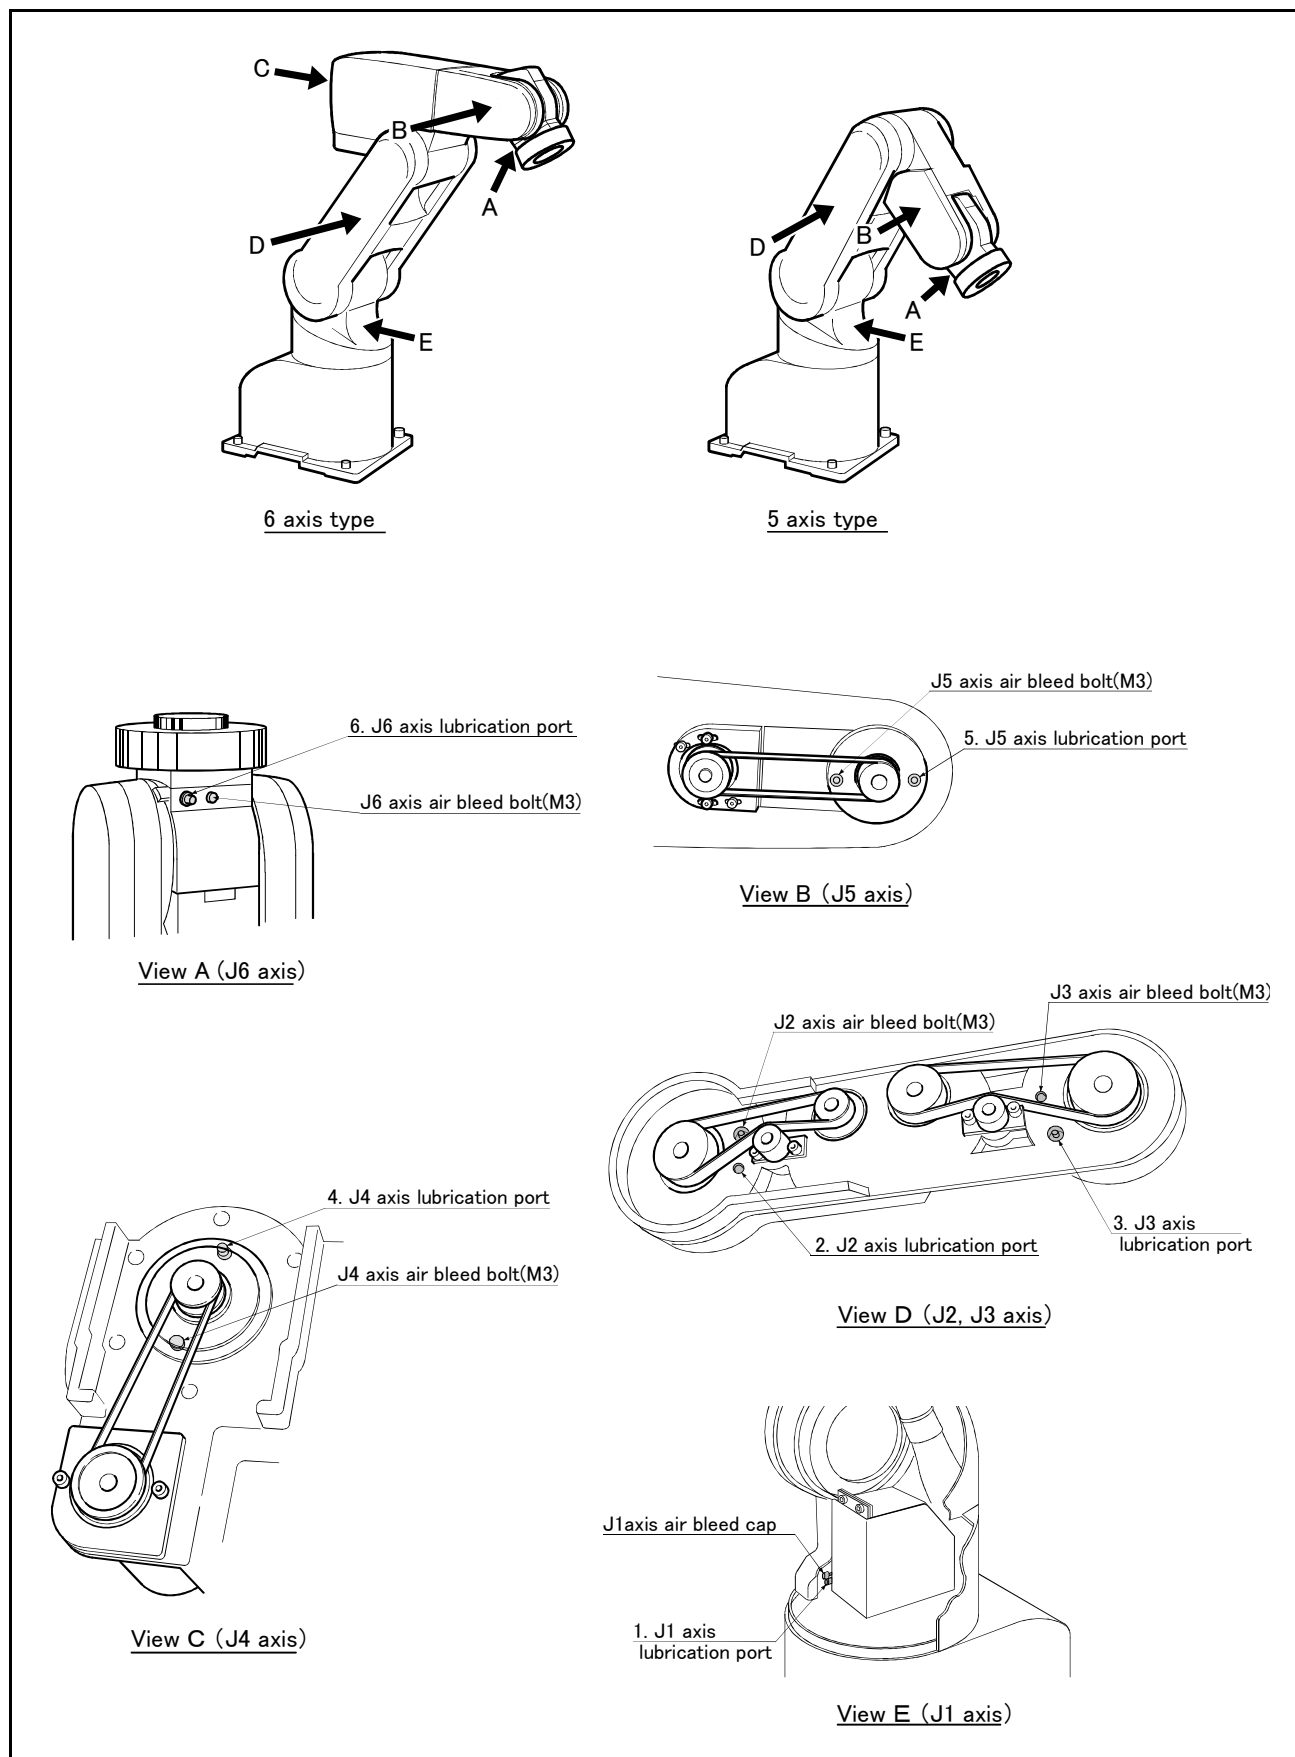

Fig.5-11 : Lubrication positions
The grease nipple position is shown in Fig. 5-11. The lubrication specifications for each place are shown in Table 5-5. Before lubricating, refer to “Fig. 5-4Installing/removing the cover \(5-axis type\)” on page 44 for the 5-axis type, and “Fig. 5-5Installing/removing the cover \(6-axis type\)” on page 44 for the 6-axis type, and remove the required covers.
- The numbers in the Table 5-5 correspond to the supply positions in Fig. 5-11.
(2) Lubrication method